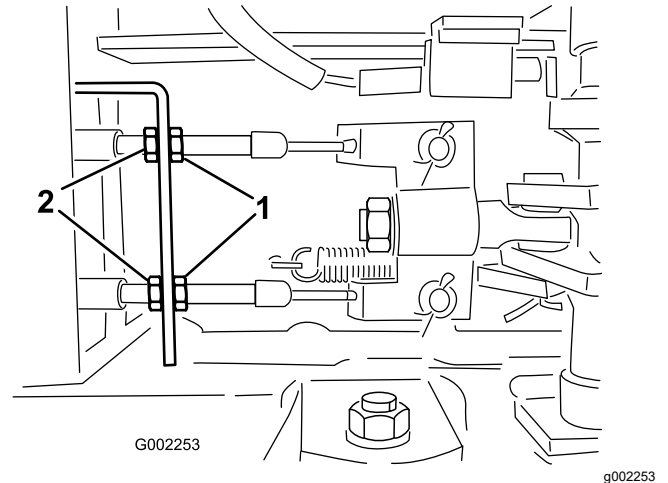

Figure 137
5. Loosen the front jam nuts on the brake cables under the front end of the sprayer (Figure 137).
6. Tighten the rear jam nuts equally until the brake pedal moves between 1 to 2 cm (1/2 to 1 inch) before you feel resistance (Figure 137).